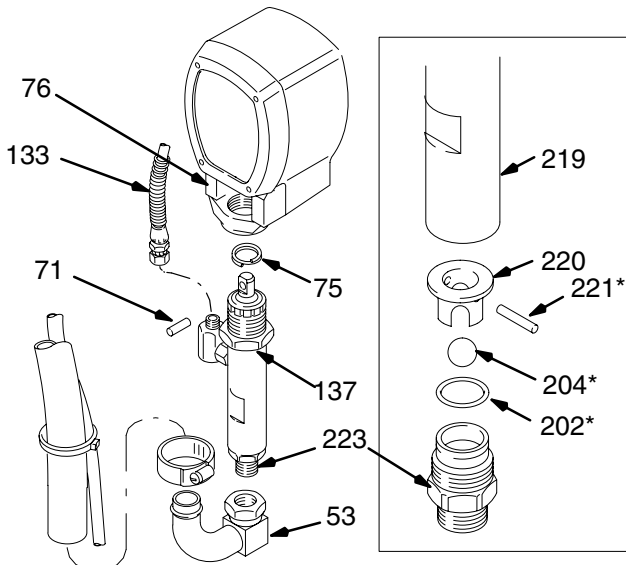

Fig. 23
Removing the Pump See Fig. 23.
1. Unscrew the intake valve (223) and remove all parts. See Fig. 23.
- Assemble and install the intake valve. Use a **new** gasket (202*). Tighten the valve to 67 ft-lb (91 N.m). See Fig. 23.
- See Fig. 23 and 29.
- Screw the pump 3/4 of the way into the bearing housing (76). Hold the pin (71) up to the pin hole in the connecting rod (79) and continue screwing in the pump until the pin slides easily into the hole.
- Align the top threads of the pump cylinder flush with the face (E) of the bearing housing and so the outlet nipple (15) faces the rear of the unit.
- Push the retaining spring (75) completely into the connecting rod groove. Tighten the locknut (137) very tight - 90 ft-lb (122 N.m), to prevent it loosening and damaging the threads of the bearing housing.